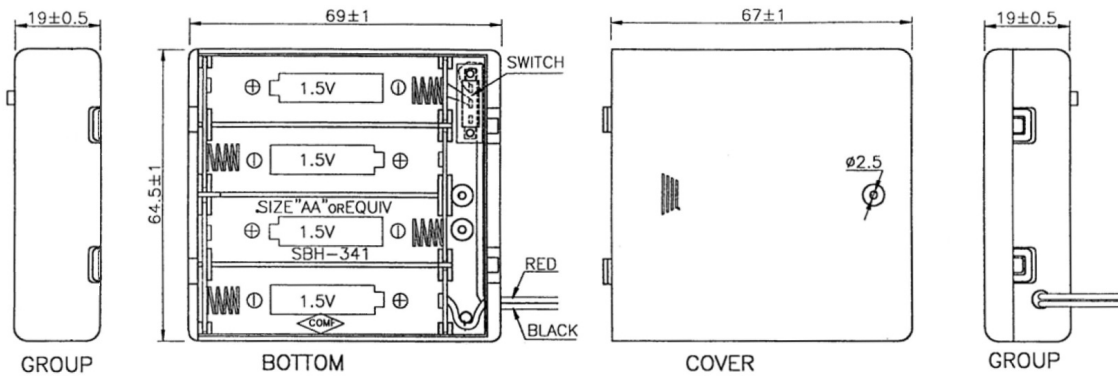

Fig 0 - Battery box as supplied
- 1 - Open battery box and position with the lead exit at the bottom right. [Fig 0]